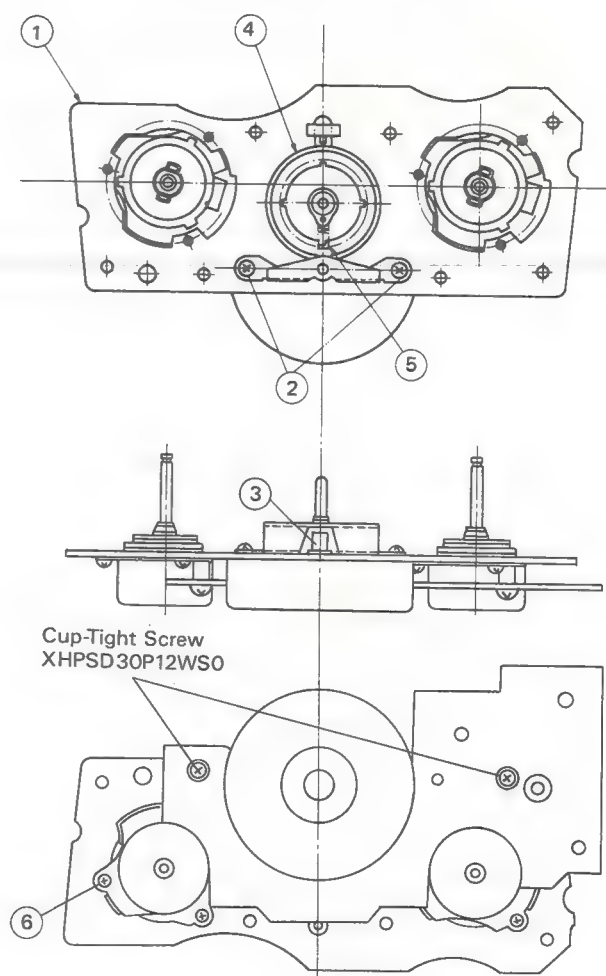

Figure 31
1. Check that the reel idler (4) has not moved off the reel chassis (1), and that the reel idler spring (5) is properly attached to the reel idler.
2. Taking care not to damage the reel motor pulley (3), install a replacement reel motor with 2 screws (XBPSD30P06J00) such that the reel motor leads run in the directions shown in Figure 31 (use of longer screws will damage the motor).
2. Move the reel idler to the center of the reel chassis as shown in Figure 31, and then pull slightly to the reel motor side to remove the reel idler.
1. Fit the replacement brake unit, facing the way shown in Figure 31, by means of the 3 fixing screws (XBPSD26P04000).